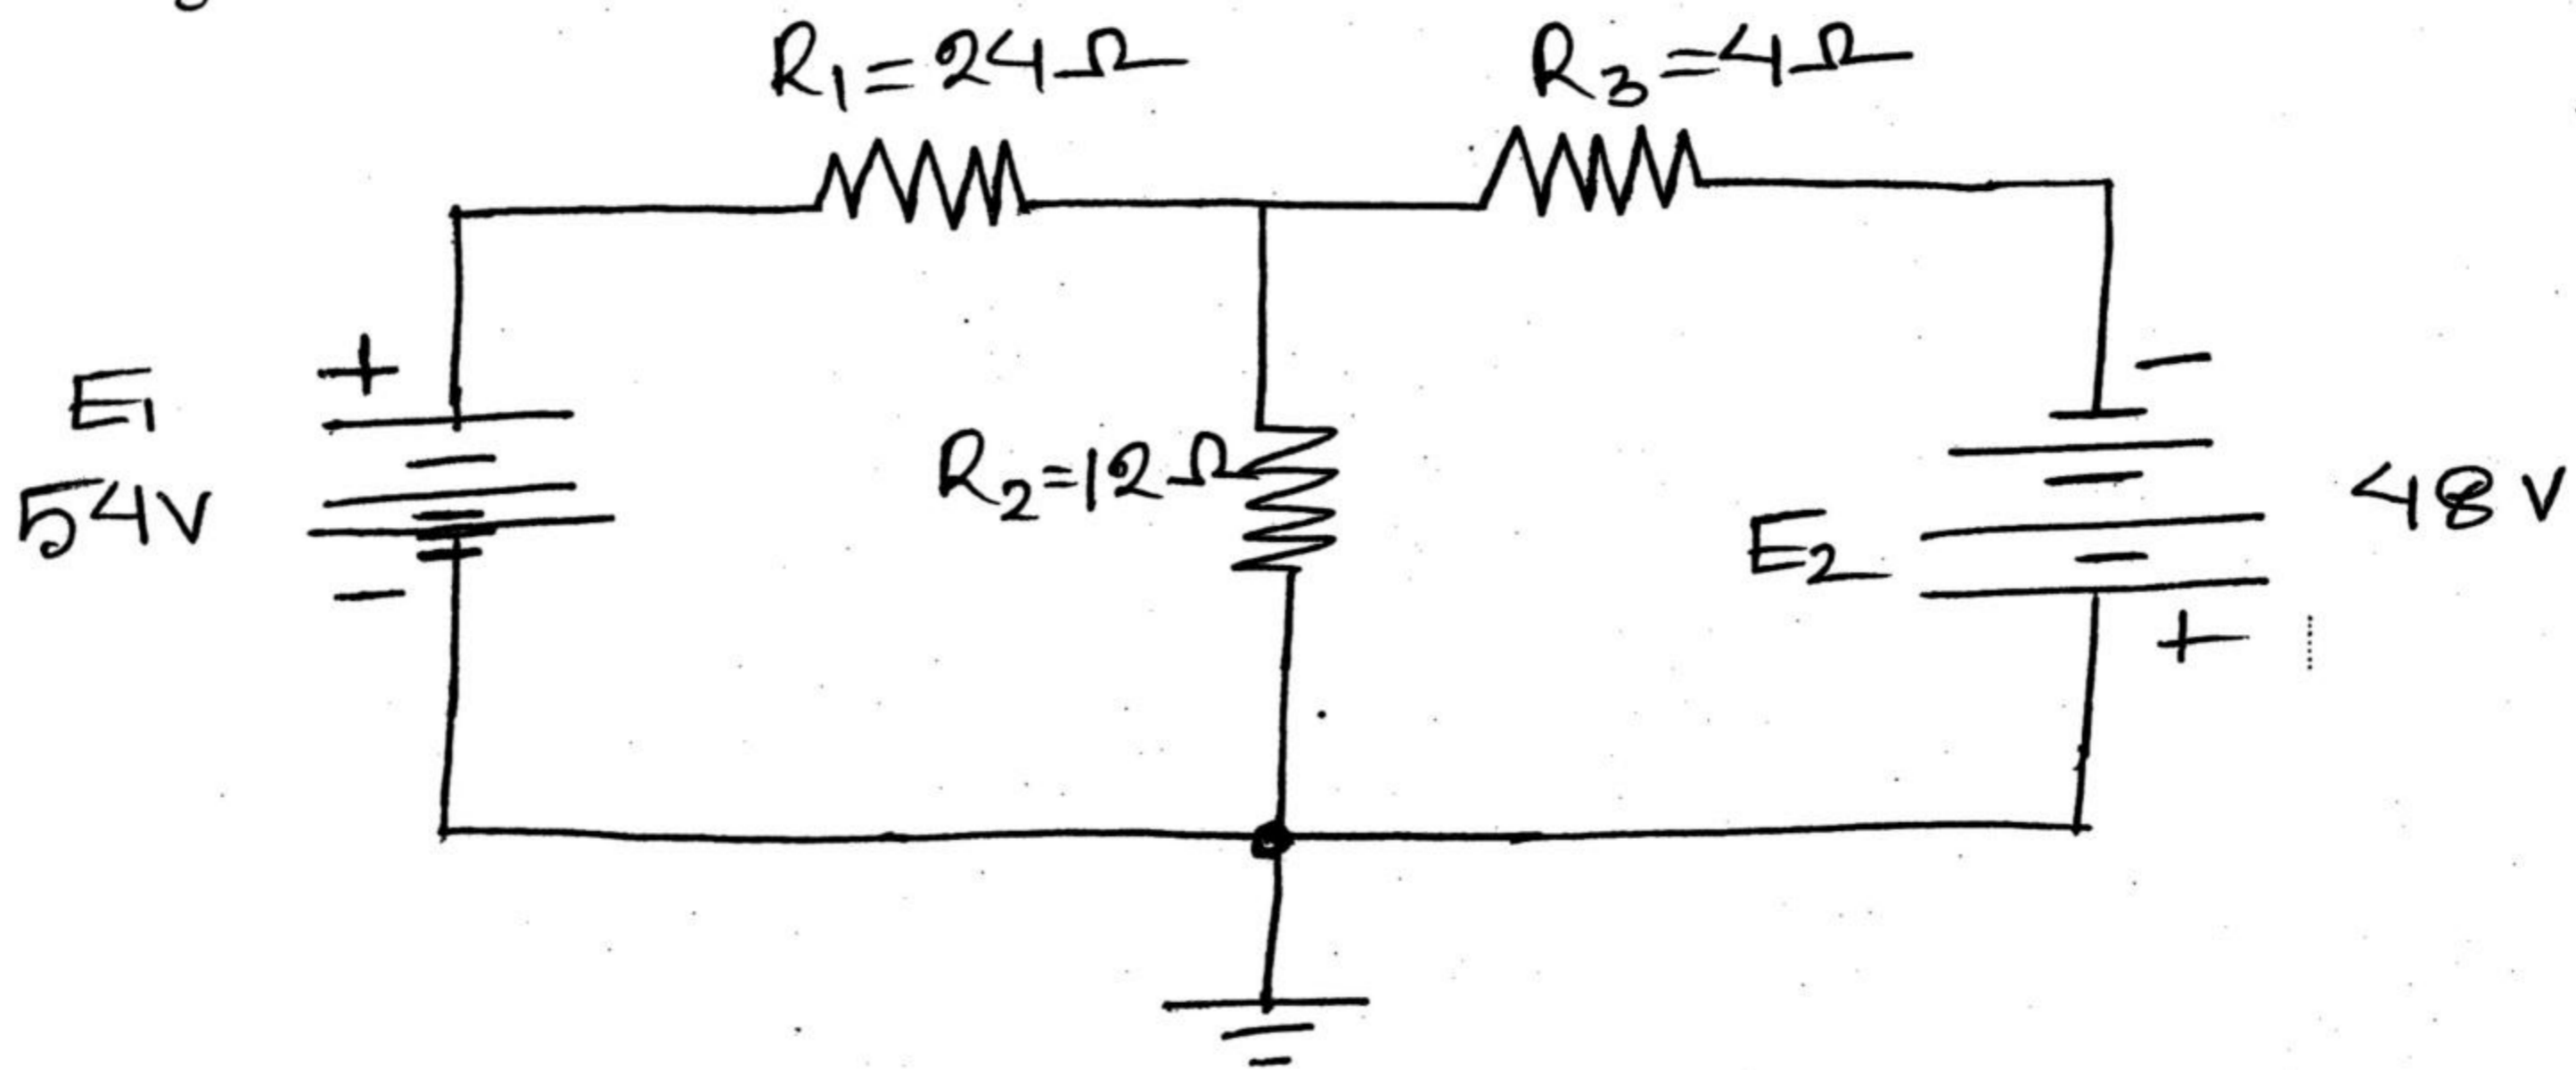

Figure: 7
- b) Using the Superposition theorem, determine the current through resistor R_2 in Fig.7 4